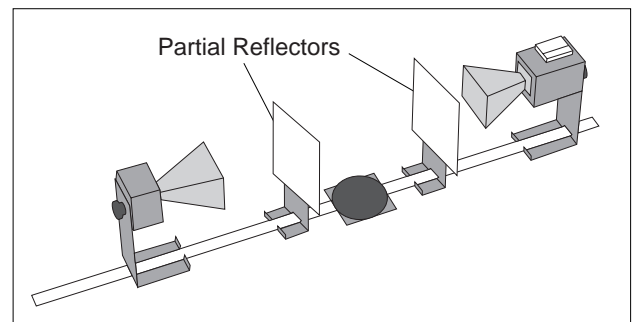

Figure 8.1 Fabry-Perot Interferometer
When an electromagnetic wave encounters a partial reflector, part of the wave reflects and part of the wave transmits through the partial reflector. A Fabry-Perot Interferometer consists of two parallel partial reflectors positioned between a wave source and a detector (see Figure 8.1).
- ① Arrange the equipment as shown in Figure 8.1. Plug in the Transmitter and adjust the Receiver controls for an easily readable signal.
- ② Adjust the distance between the Partial Reflectors and observe the relative minima and maxima.
- ③ Adjust the distance between the Partial Reflectors to obtain a maximum meter reading. Record, d_1 , the distance between the reflectors.